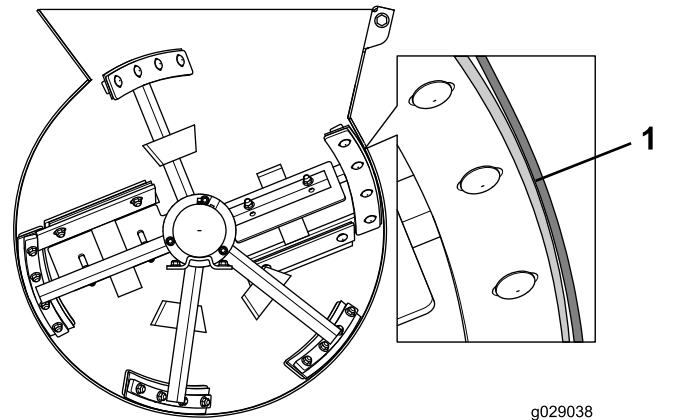

Figure 46
5. Adjust the position of the wiper so that the wiper lightly contacts the drum across the length of the wiper (**Figure 46**).